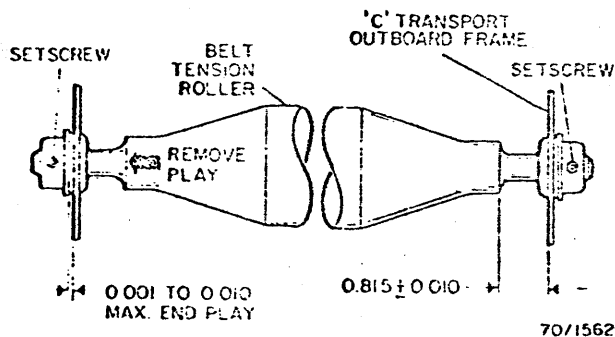

Fig. 3-208. Belt Tension Roller
2. Adjust the roller in accordance with Fig. 3-208.